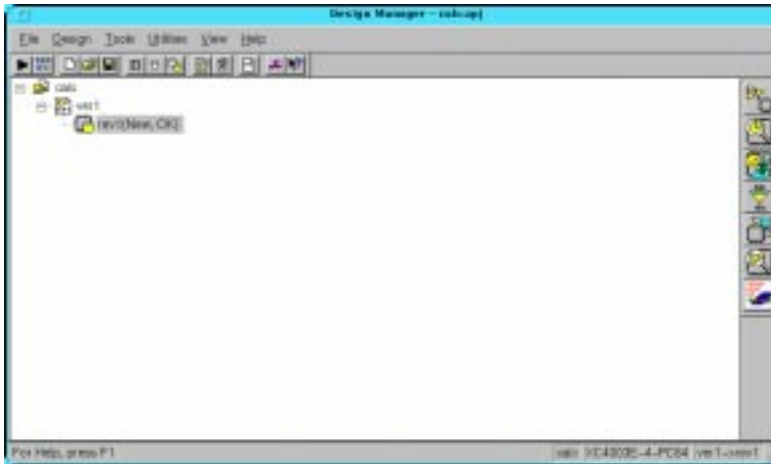

Figure 10-74 Design Manager With a New Version
9. Click on OK. The Design Manager window should now look like the following Figure 10-74.